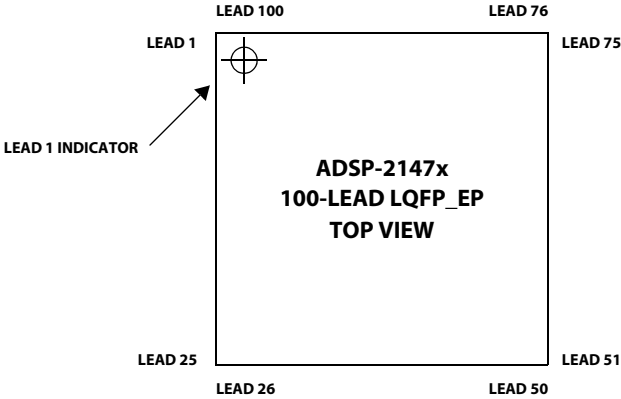
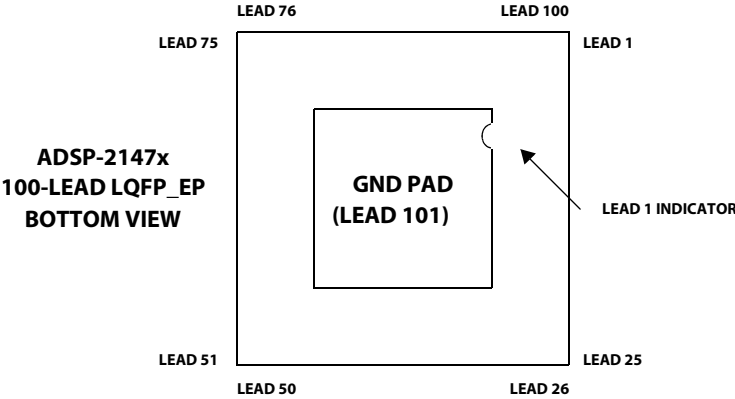

Figure 53. 100-Lead LQFP_EP Lead Configuration (Top View)
Figure 54. 100-Lead LQFP_EP Lead Configuration (Bottom View)
* Lead no. 101 is the GND supply (see Figure 53 and Figure 54) for the processor; this pad must be **robustly** connected to GND.
Figure 53 shows the top view of the 100-lead LQFP_EP pin configuration. Figure 54 shows the bottom view of the 100-lead LQFP_EP lead configuration.